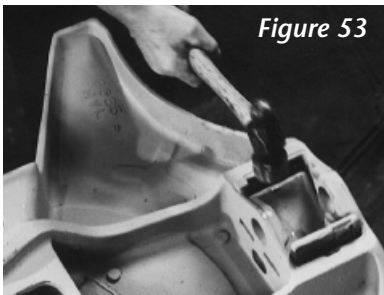
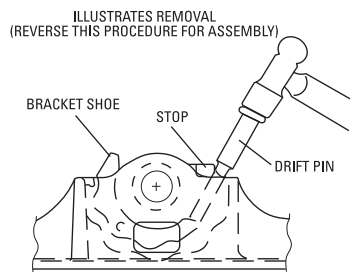
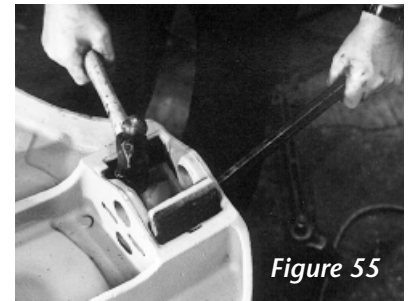

Figure 53
Figure 54
Figure 55
4. Drive out the bracket shoes at both sides with a hammer (Figure 53) and a drift pin (Figure 54) or similar tools at the bracket shoe stop side of the plate casting pocket. A screwdriver may be wedged between the bracket shoe and pad to assist in bracket shoe removal (Figure 55).